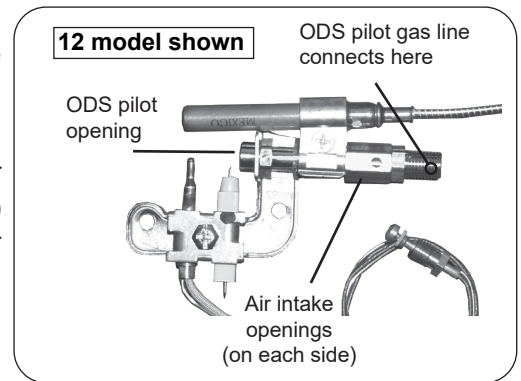

Fig. 29-1
1. Turn the burner system to the **OFF** position and allow it to cool. Inspect the ODS pilot area (see Fig. 29-1) for any visual contamination or debris (usually lint, hair, spider webs, or small insects). Lightly brush off all external surfaces while vacuuming loosened debris from the ODS pilot opening. **Be careful not to brush any foreign material into the ODS pilot opening.**
2. Clean out the air intake openings (see Fig. 29-1) by lightly brushing around the openings while vacuuming.
4. If the ODS pilot flame does not burn as indicated in the instructions, extinguish the ODS pilot by turning the valve to the full **OFF** position. Using a compressed air duster, insert the flexible nozzle through the air intake openings, ensuring that the nozzle is pointed toward the ODS pilot opening (see Fig. 29-1). Blow air through the intake openings to clear out any debris that may be in the system.
5. Relight the ODS pilot and inspect it to be sure it is burning as shown in the instructions. If not, extinguish the ODS pilot and **turn off the gas supply to the burner system.** Using an adjustable or a 1/4" wrench, disconnect the ODS pilot gas line (see Fig. 29-1) from the valve.